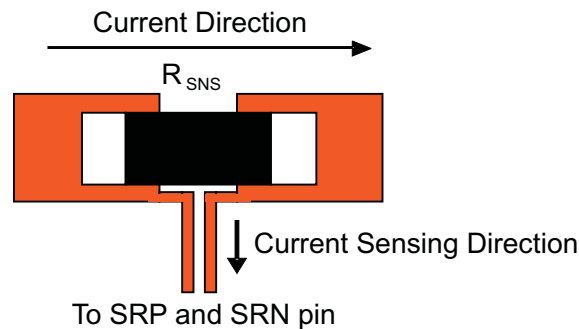

Figure 27. Sensing Resistor PCB Layout
- The charging current sensing resistor should be placed right next to the inductor output. Route the sense leads connected across the sensing resistor back to the IC in the same layer, close to each other (minimize loop area) and do not route the sense leads through a high-current path (see Figure 27 for Kelvin connection for best current accuracy). Place decoupling capacitor on these traces next to the IC.